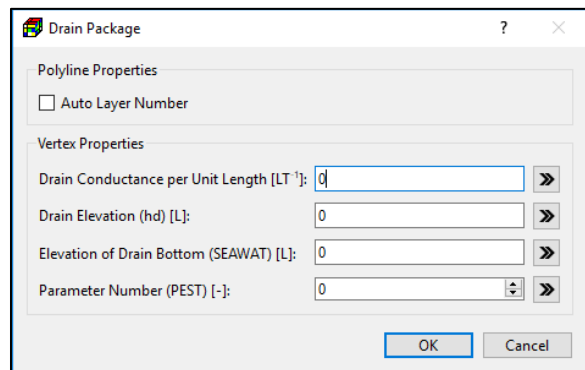

Figure 45. The Drain Package dialog box for specifying vertex properties
2. **Polyline input method:** Figure 45 shows the dialog box that is used to specify polyline and vertex properties.